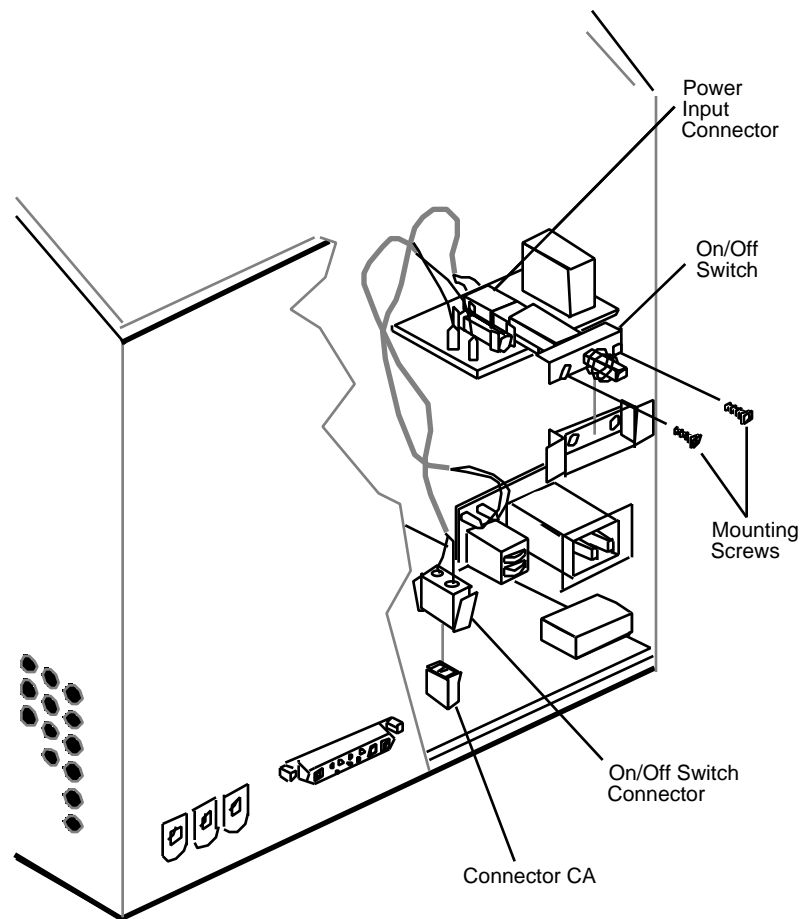

FIGURE 16
1. Replace the on/off switch on the chassis mounting bracket, and install the two mounting screws (Figure 16) .
2. Connect the power input connector (Figure 16) to the connector on the on/off switch board.
3. Connect the 2-wire, on/off switch connector (Figure 16) to the connector labelled CA on the main deflection board.
4. Replace the plastic knob (Figure 16) on the on/off switch.